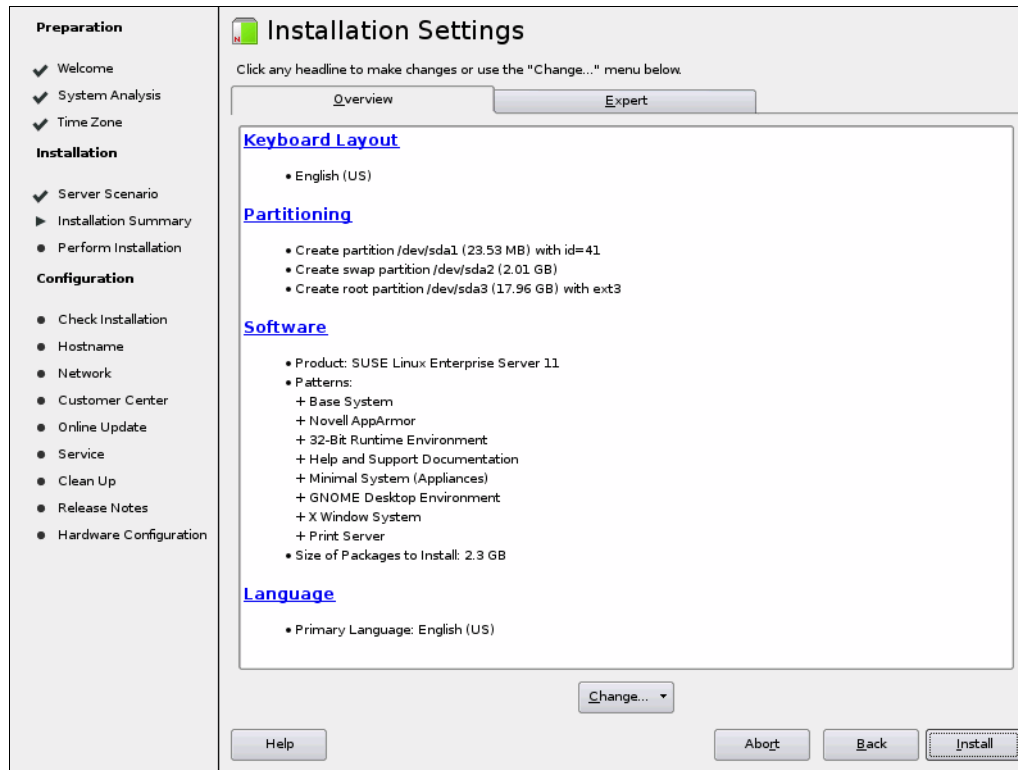

Figure 12-48 Installation settings
2. Select **New installation** and click **Next**. The Installation Settings window opens, as shown in Figure 12-48.